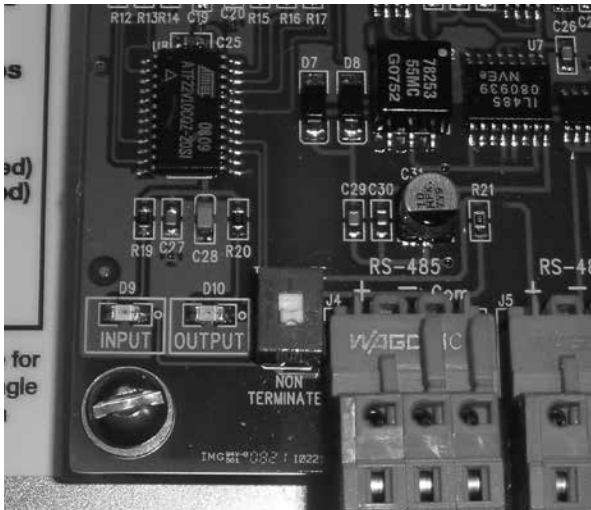

Figure 9. Setting the termination resistor DIP switch
14. Set the termination resistor DIP switch located to the left of the orange RS-485 connectors at the bottom of the communication board. See Figure 9. Typically, the switch will be set to terminate for the communications cards located at the beginning and end of an RS-485 communications wire. The communications cards between the first and last of a system should have the switch set to non-terminating. Refer to the Operation section of this manual for more information.